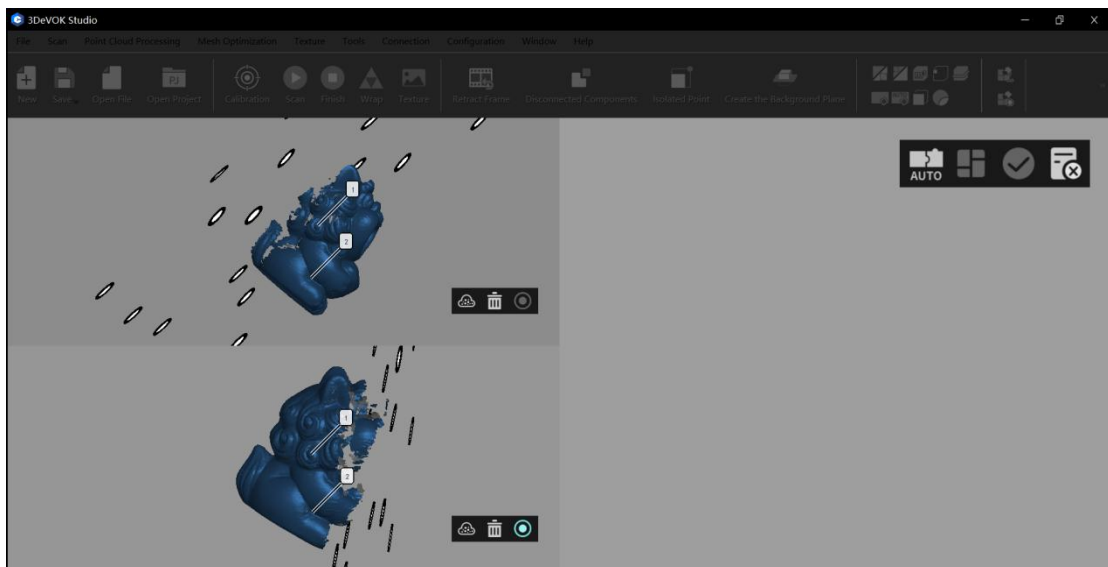

Figure 9-3 Select Common Features
4. Manually select more than three corresponding points with identical geometric features between Project A and Project B, which is shown in Figure 9-3. If incorrect features are selected during alignment, delete erroneous points with the